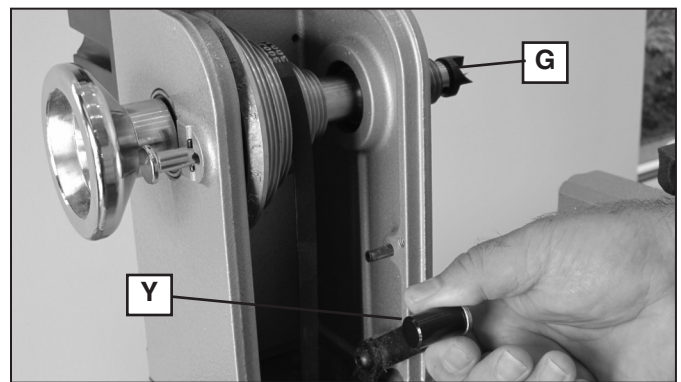

Fig. 30
2. Pull down belt tensioning lever (Y) Fig. 30 to release belt tension.
3. Remove spur center (G) Fig. 30, if attached.
16. Lift belt tensioning lever (Y) Fig. 30 up and snap it into place.